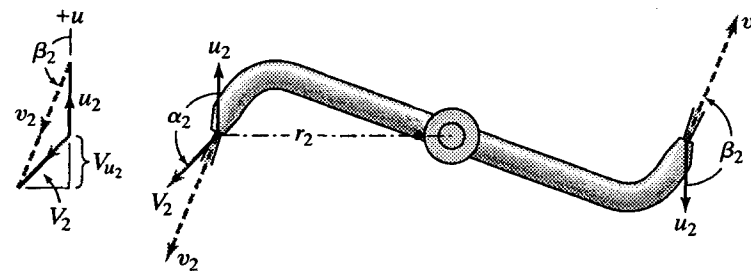

Figure 6.14
6.14.2 A lawn sprinkler like that of Fig. 6.14 with $\beta_2 = 156^\circ$ has a total jet area of 0.000 86 ft² and a radius of 16 inches. Compute the discharge rate, the torque exerted by the water, and the power developed, when $h = 120 \text{ ft}$ and the sprinkler is prevented from rotating.